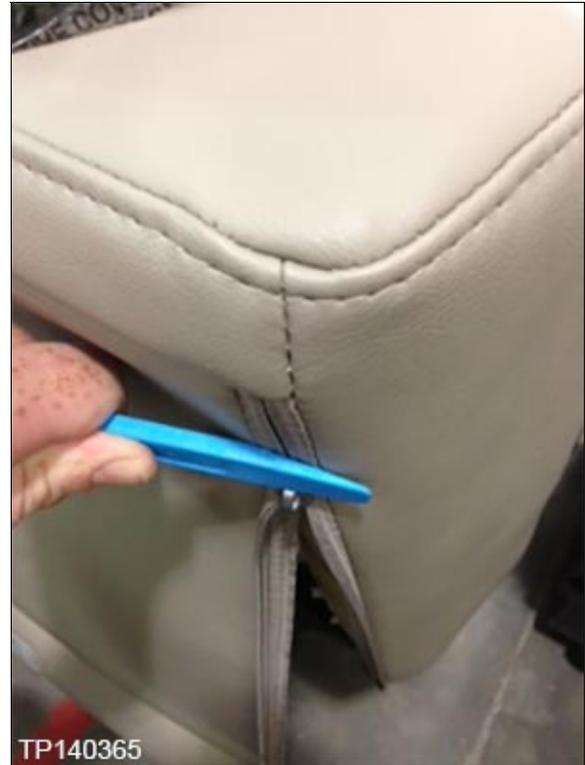

Figure 4
1. Unzip the seat back covers using a suitable tool (tool shown in Figure 4).
8. Zip the seat back covers using a suitable tool (Figure 4).